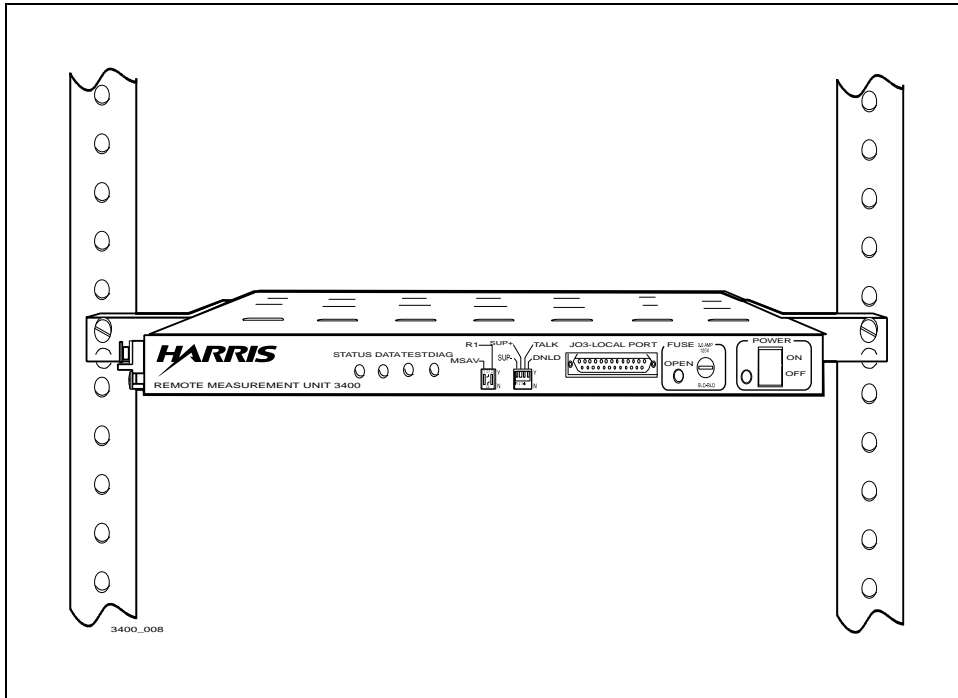

Figure 1-6. RMU 3400 Mounted in Rack
Mount the RMU 3400, with bracket assembly already attached, to the rack with a panel screw on each side (see Figure 1-6). There must be at least 1¼ inches of vertical rack space available for mounting. Do not plug connectors J01 and P01 in at this point.
3. Connect the ring tongue terminal to the hut/cabinet ring ground (see Figure 1-6).